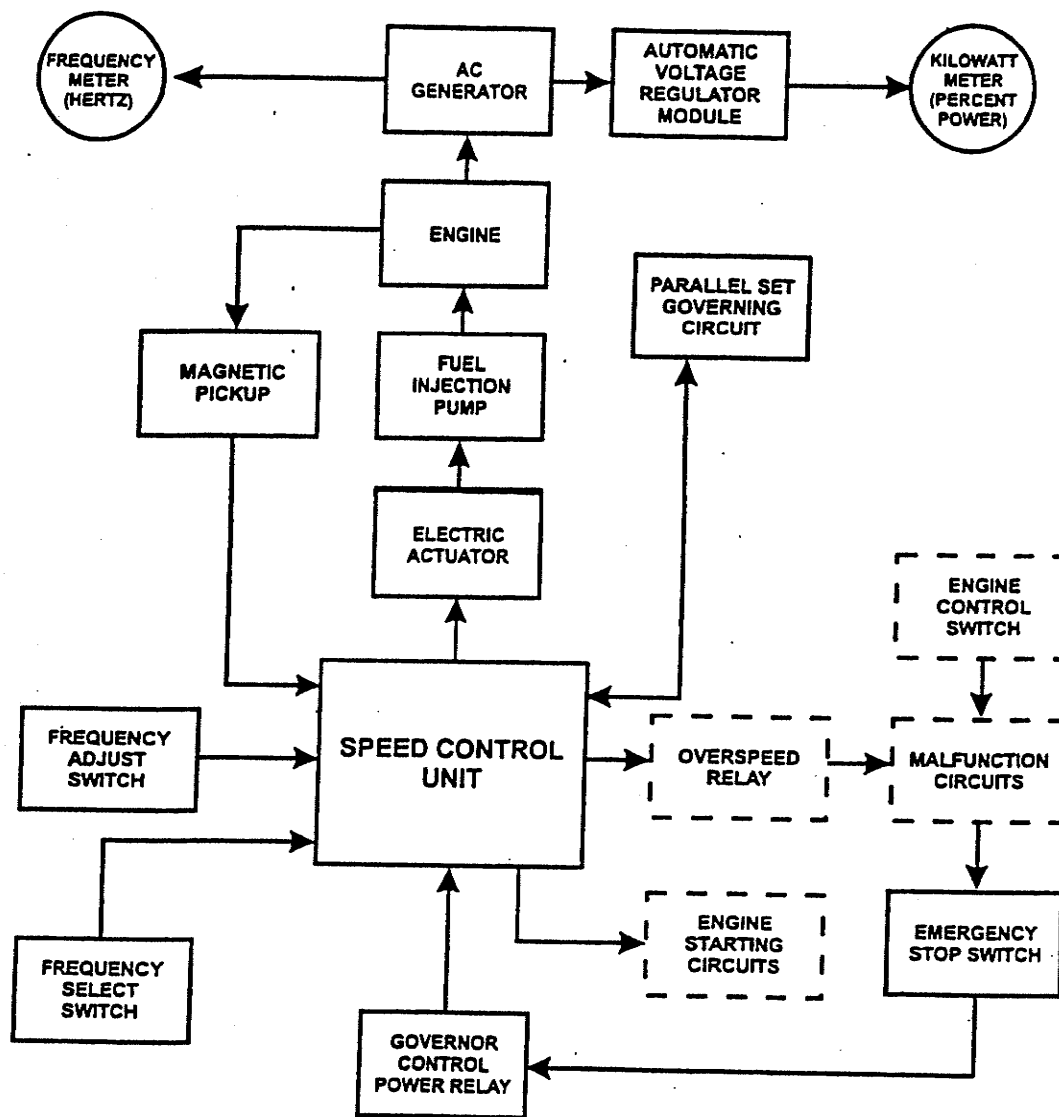

FIGURE 1-20. GOVERNOR CONTROL SYSTEM FLOW DIAGRAM
- 1.16.3.1 The governor control system (Figure 1-20) includes the DCS speed control unit, electric actuator, DCS load sharing synchronizer, magnetic pickup, fuel injection pump, and FREQUENCY SELECT switch.